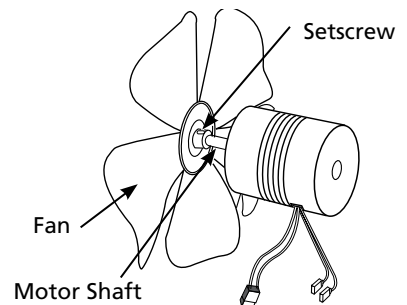

Figure 6 – Fan Motor Shaft and Setscrew Location
6. Remove fan setscrew using a 1/8" Allen wrench (see Figure 6).